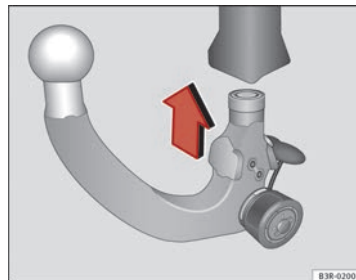

Fig. 156 Removable towing bracket: Inserting the ball joint
- With the spring mechanism in the ready position, insert the ball joint into the mounting fixture and push it upwards ⇒ **fig. 156** in the direction indicated (arrow) ⇒ **(A)**. It should lock into position automatically. You should now clearly hear it click into place.